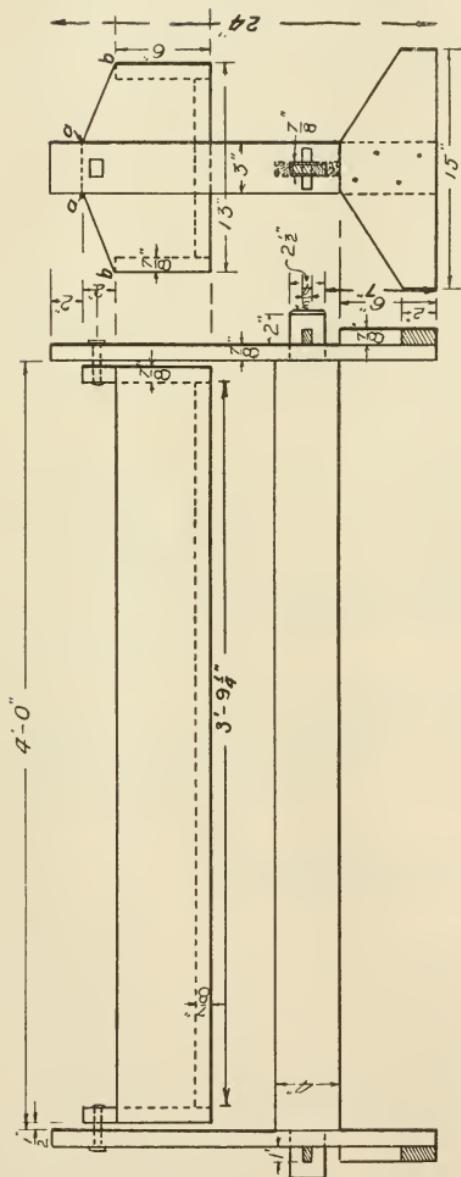

FIG. 47.—WORKING DRAWING OF SHEEP-FEEDING TROUGH.
1. Laying off width and length.—Lay off the width of the bottom $11\frac{1}{4}$ " and length $3' 9\frac{1}{4}$ ". Lay off the sides 6" wide and 3' 11" long. Lay out the ends 8" wide and 13" long; 2" from one edge of the ends, gauge a line from end to end; find the middle of the length and on the same edge lay off the middle line; $1\frac{1}{2}$ " on each side mark *a*, *a*, and draw lines to *b*, *b* on the ends (Fig. 47).